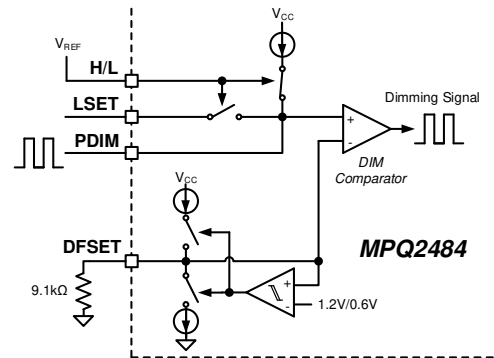

**Figure 11: Dimming Signal Generation**
1.2V via an external resistor divider connected from VREF to the LSET pin. When compared to the DFSET triangular ramp waveform, the LSET voltage determines the duty cycle of the final dimming signal (see Figure 11).